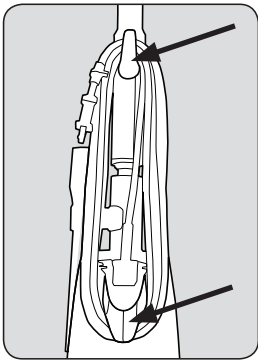

Fig. 5
1. Release the power cord from cord storage hooks. (Fig. 5)